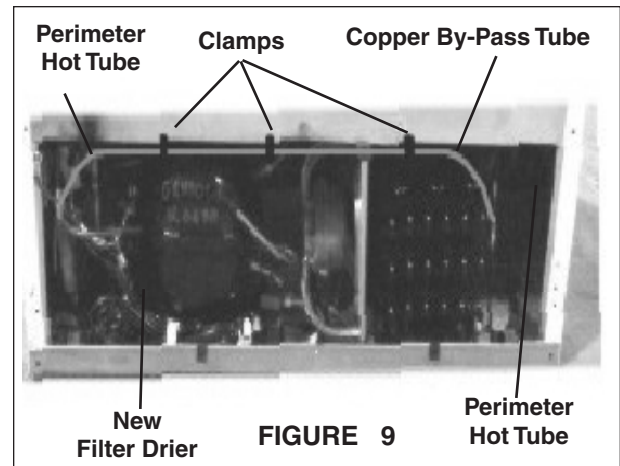

FIGURE 9
5. Install copper bypass tube and replacement filter-drier as shown in Figure 9. Use 45% silver solder for all connections.